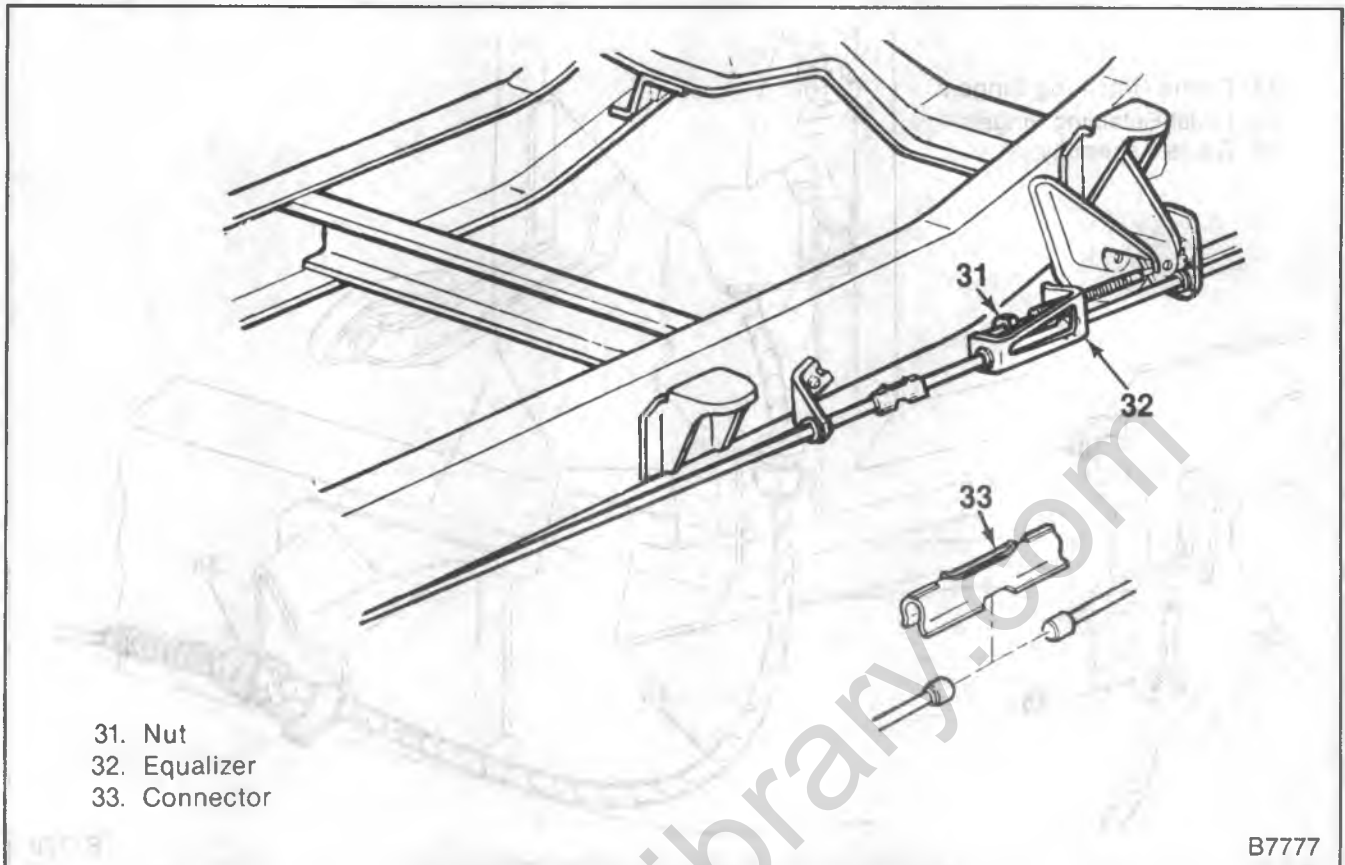

Figure 23—Equalizer Components - Typical
- 1. Nuts (1).
- 2. Release rod (3).
- 3. Bolt (2).
- 5. Parking brake cable (figure 23).
Install or Connect (Figures 23 and 24)
Remove or Disconnect (Figures 23, 25 and 26)
Install or Connect (Figures 23, 25 and 26)
↔ Remove or Disconnect (Figure 23)
↔ Install or Connect (Figure 23)